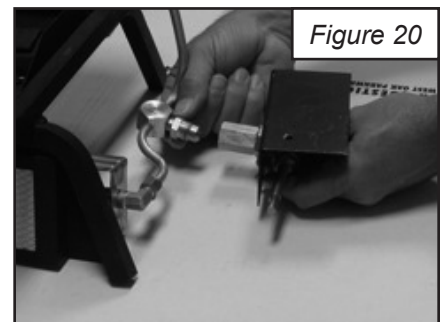

Figure 20
4. Attach the other end of the connector to the inlet fitting on the infrared burner system. (See Figure 20)